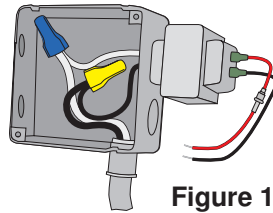

Figure 1
- Mount the transformer to the electrical box. Figure 1 shows how the transformer could be mounted.